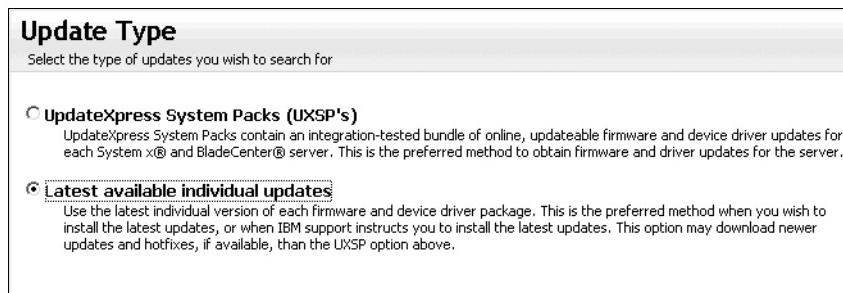

Figure 6-15 UXSPI Update Type panel
- It is important to consider when which update type to choose, as shown in Figure 6-15: